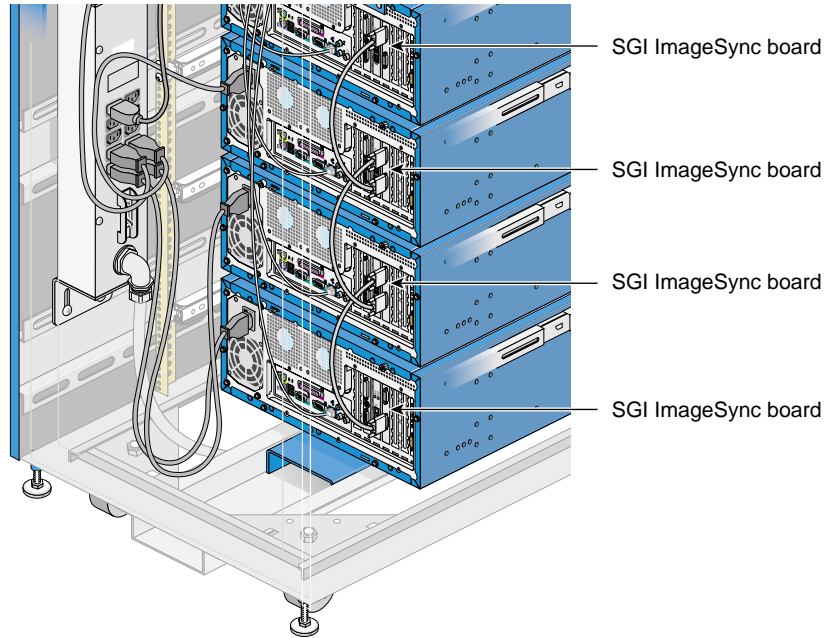

Figure 4-4 Disconnecting the External SGI ImageSync Cable, SGI Graphics Cluster Series 12 System
5. For an SGI Graphics Cluster Series 12 system, disconnect the daisy-chain cable from the node's external SGI ImageSync connector; see Figure 4-4. Channel nodes are daisy-chained to the nodes above and below.